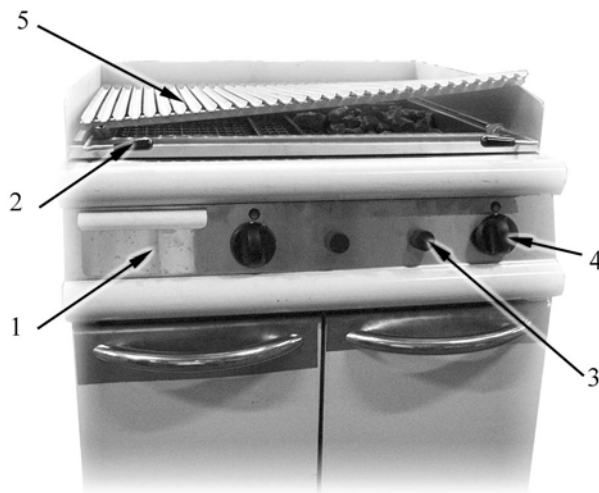
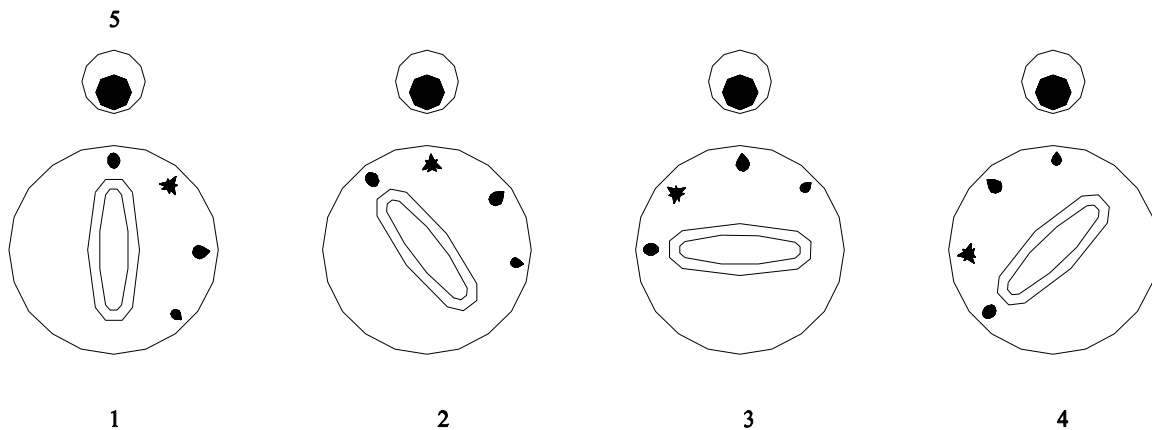

Fig. 1
Fig. 2
Push the knob (pos. 4 in Fig. 1) and turn it towards the left to the pilot flame position (pos. 2 in Fig. 2); hold the knob down and at the same time push the piezoelectric ignition button (pos. 4 and in Fig. 1).
You can observe the pilot flame through the inspection hole (pos. 3 and in Fig. 1).
Push the knob slightly and turn it towards the left until to the position as in pos. 3 in Fig. 2, so the rack heating can start up.
You can select the latic stones temperature between maximum (pos. 3 in Fig. 2) and minimum (pos. 4) positions.